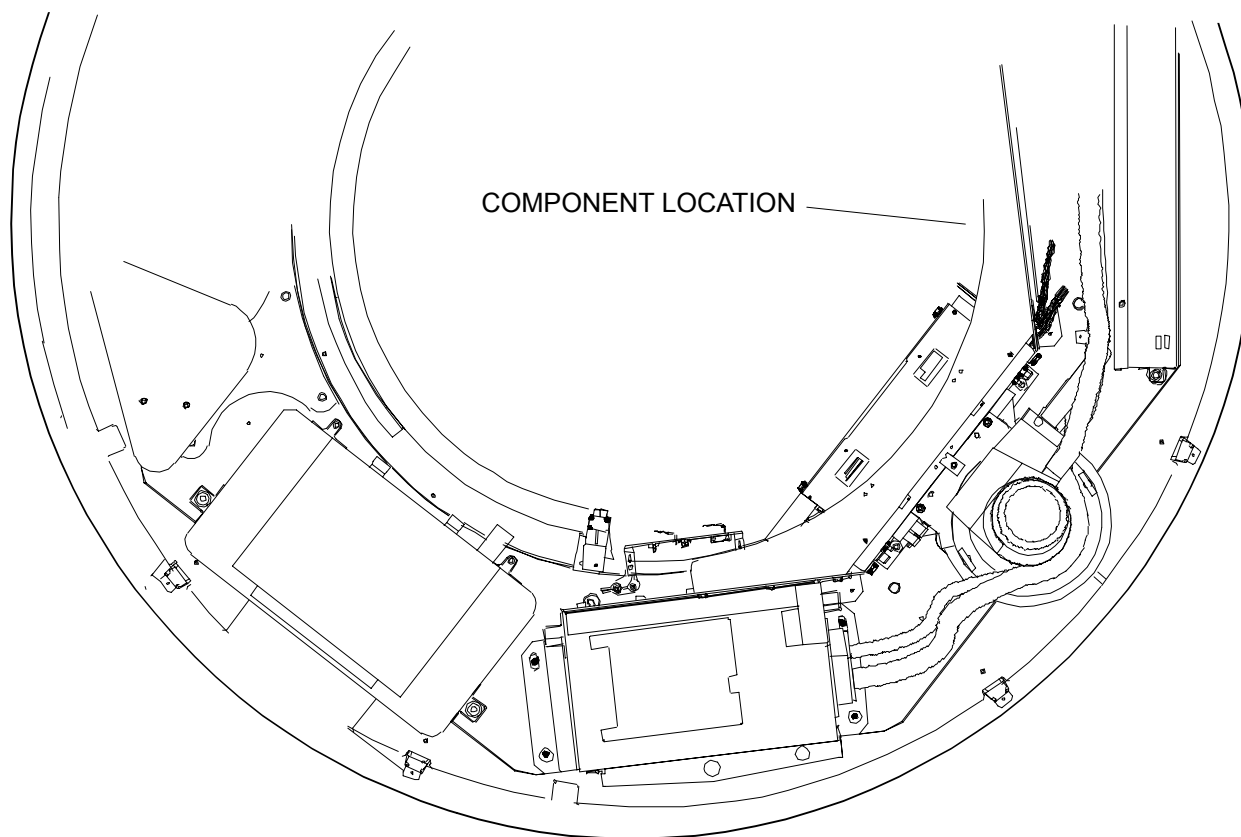

FIGURE 261 Small Drives Relay PCB at 6:00
3. Rotate the Scan Frame counterclockwise by hand until the Small Drives Relay PCB is at the 6:00 position. The scan frame **cannot** be locked in this position. See Figure 261.